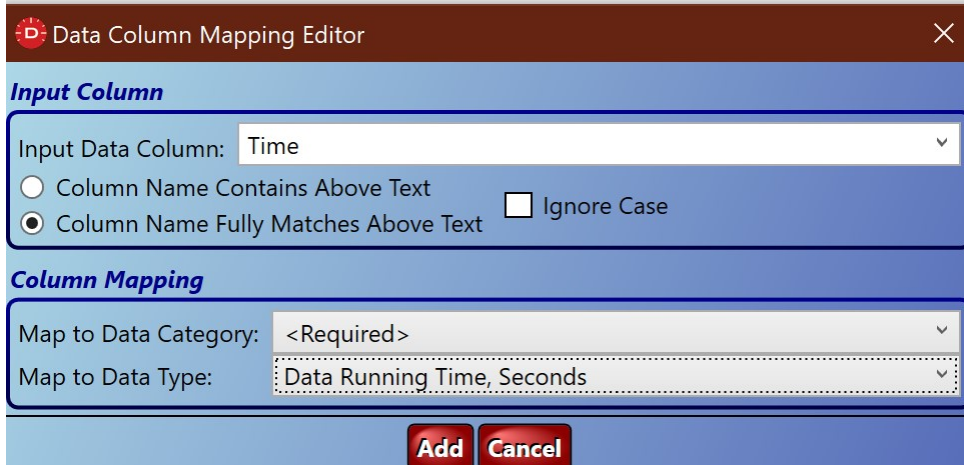

Figure 37 Data mapping editor.
9. In Figure 37, in the Input Column box, you will select the Input Data Column pull down and that will give the options from the header line that you have on your data. Select your time header.